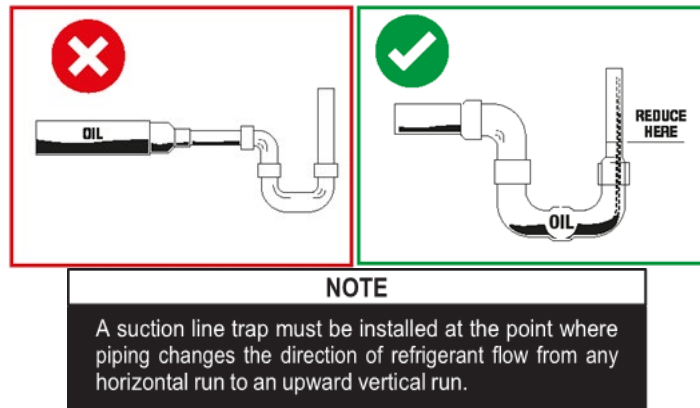

Figure 4-2. Placement of Oil Traps on Suction Lines
- For P-traps, reduce in the vertical line, never reduce in the horizontal line; see figure 4-2 for proper trap construction.